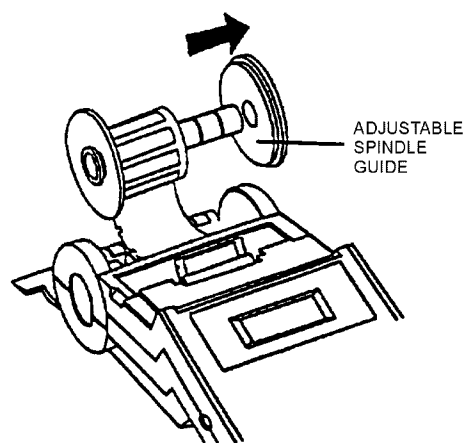

Figure 18. Adjustable Spindle
b. Remove roll spindle from the printers crib and slide off blue adjustable spindle guide (Figure 18).